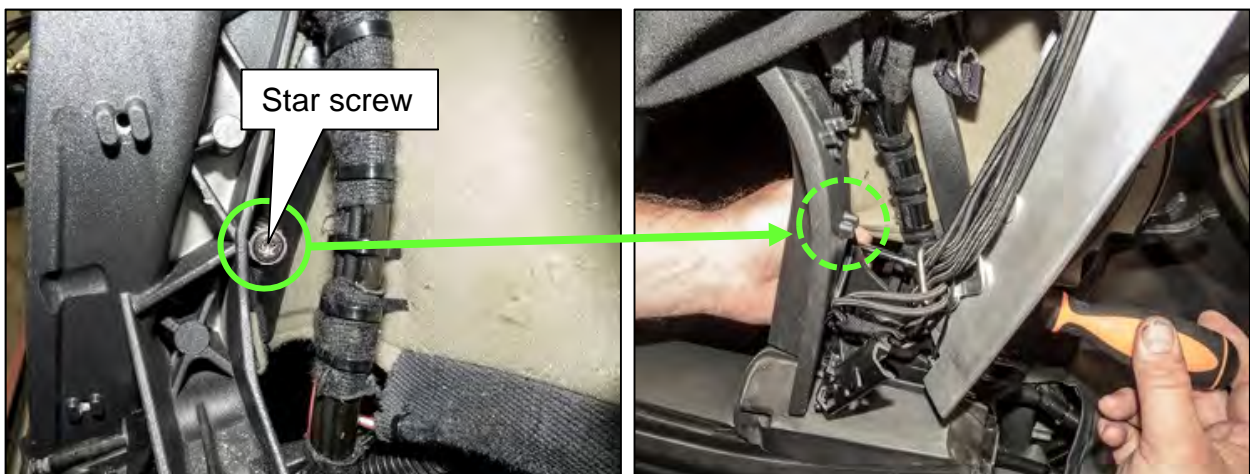

Figure 24
28. Remove the star screw shown in Figure 24.